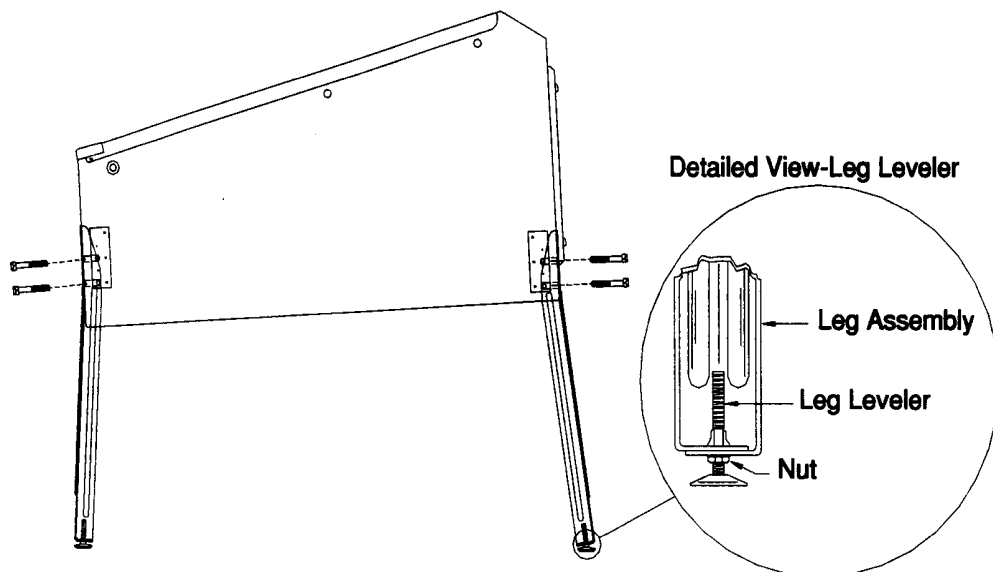

FIGURE 6
5. The leg levelers, nuts, and leg bolts are among the parts in the cash box. Install a leg leveler and nut on each of the front and rear legs. Place the cabinet on a support. Using two leg bolts in each leg attach the front and rear legs to the cabinet. Screw the levelers all the way into the legs. Remove the cabinet from the support. See Figure 6, below.